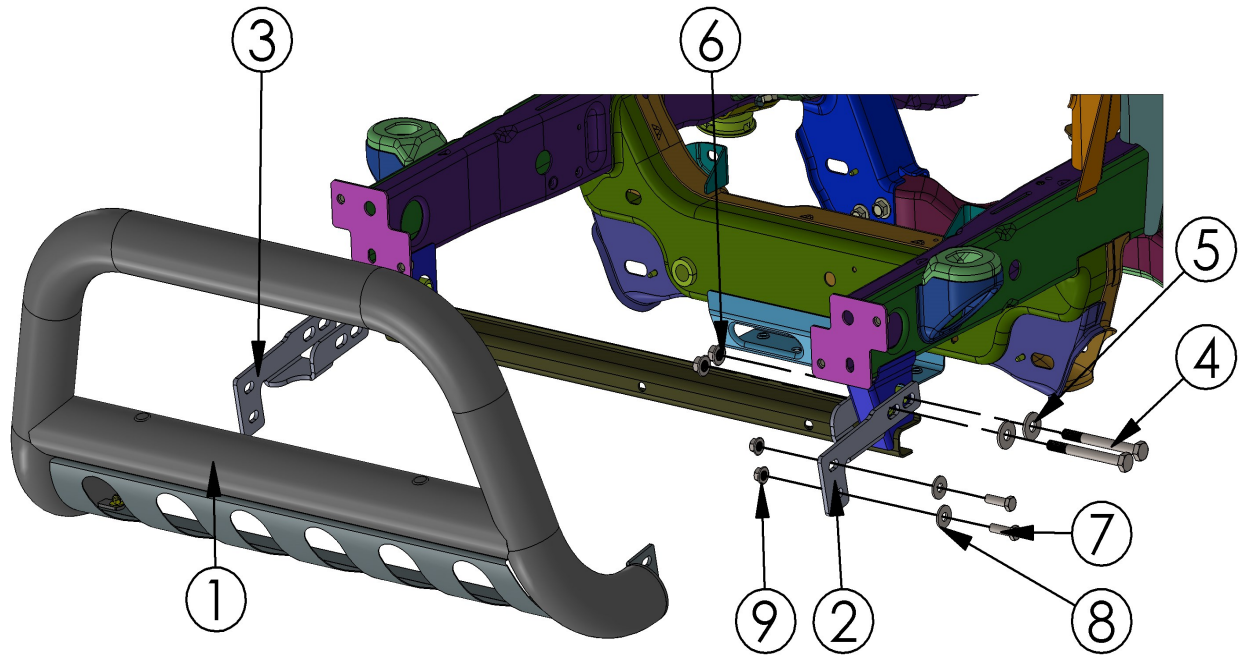

Fig. 7
4. Line up the (2) holes in the bracket with the (2) holes in the frame for the tow hook. Select (2) M12-1.75X80 hex head cap screws and (2) 12mm flat washers. Insert the bolts with washers through the bracket and the (2) holes through the frame. Secure bolts with (2) 12mm serrated flange nuts. Do not fully tighten hardware at this time. Refer to **Figure 7**.
6. With assistance, hold the bull bar up in position on the outside of the mounting brackets. Bolt the bull bar to the brackets with (4) M10-1.50X30 hex head cap screws, (4) M10 bellville washers, and (4) M10-1.50 serrated flange nuts. See **Figure 7**. Do not tighten hardware at this time.